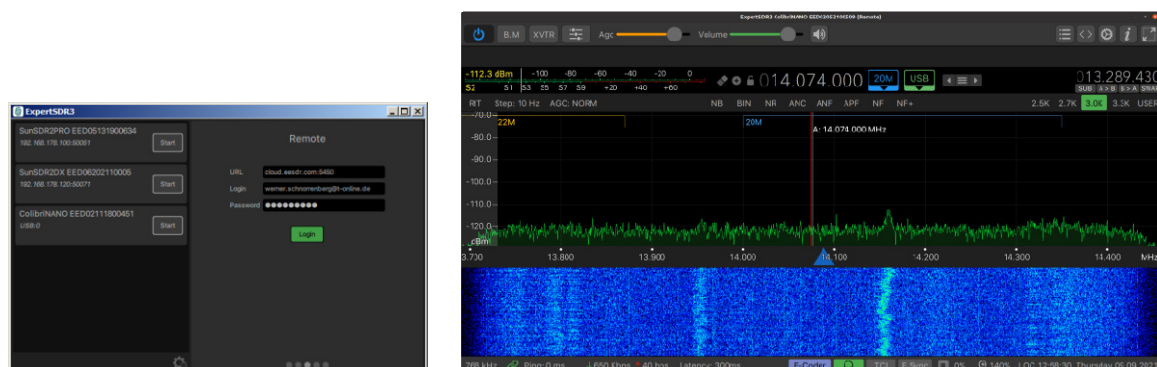

Figure 14: Radio opened via the Software ExpertSDR3_x64
b) After starting the software ExpertSDR3 on the client PC, a menu also opens in which the URL, e-mail address and password of the cloud are entered (**Fig. 14, left**). After clicking on "Login", all available radios appear again, which can be started after clicking on "Start".